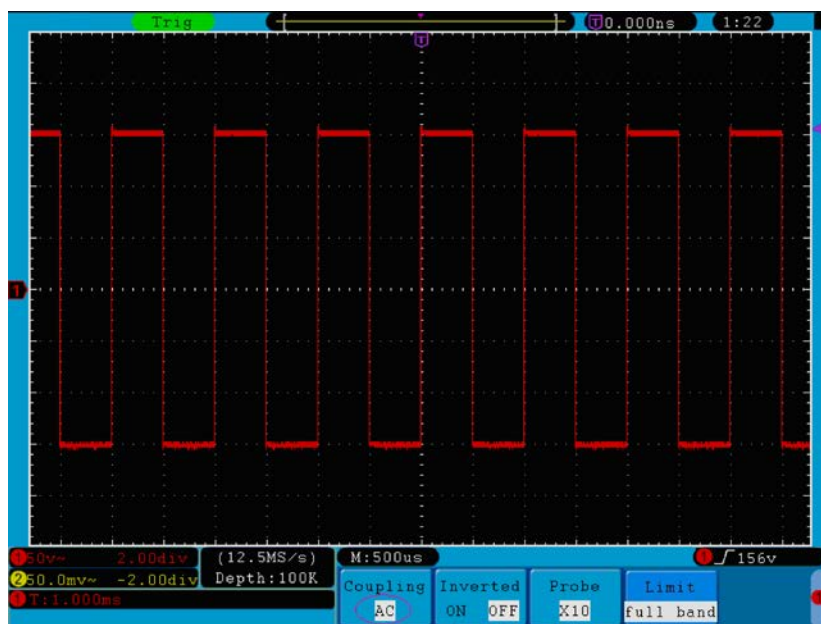

Fig. 15 AC Coupling Oscillogram
- * Then, press **F2** button to select the Coupling item as “**AC**”. By setting the channel coupling as AC mode, the direct current component of the signal will be blocked. The waveforms are shown as **Fig. 15**.